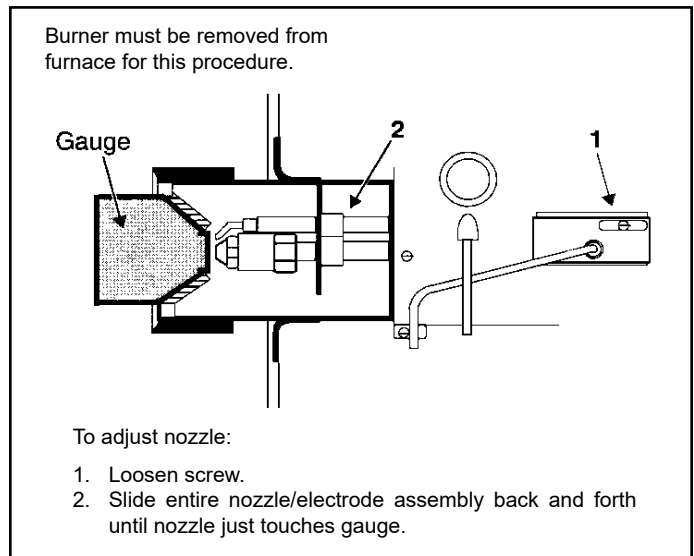

Figure 11. Beckett Oil Burner Nozzle Adjustment
Proper nozzle and electrode depth and alignment are essential for proper burner operation. Figure 11 shows the proper adjustment procedure using the Beckett "T" gauge.
2. Nozzle adjustments are made by sliding the entire nozzle assembly forward or backward within the blast tube (see Figure 11).